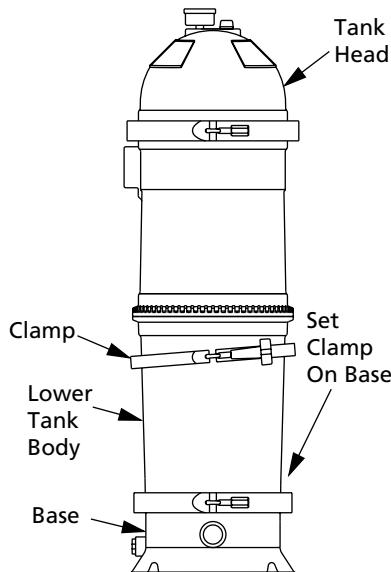

Figure 1A – 4RK12
2. Remove Clamp Fastener from clamp indicated in Figures 1A and 1B.
- Loosen indicated clamp (See Figures 1A and 1B); remove clamp by lifting straight up over tank or dropping it onto filter base (See Figures 1A, 1B, and 2).